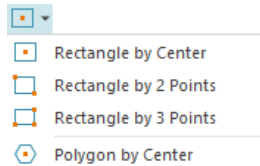

Figure 2-24 The **Rectangle** drop-down
- To draw a rectangle by using this tool, choose the **Rectangle by Center** tool from the **Rectangle** drop-down, refer to Figure 2-24; you will be prompted to specify the center point of the rectangle.